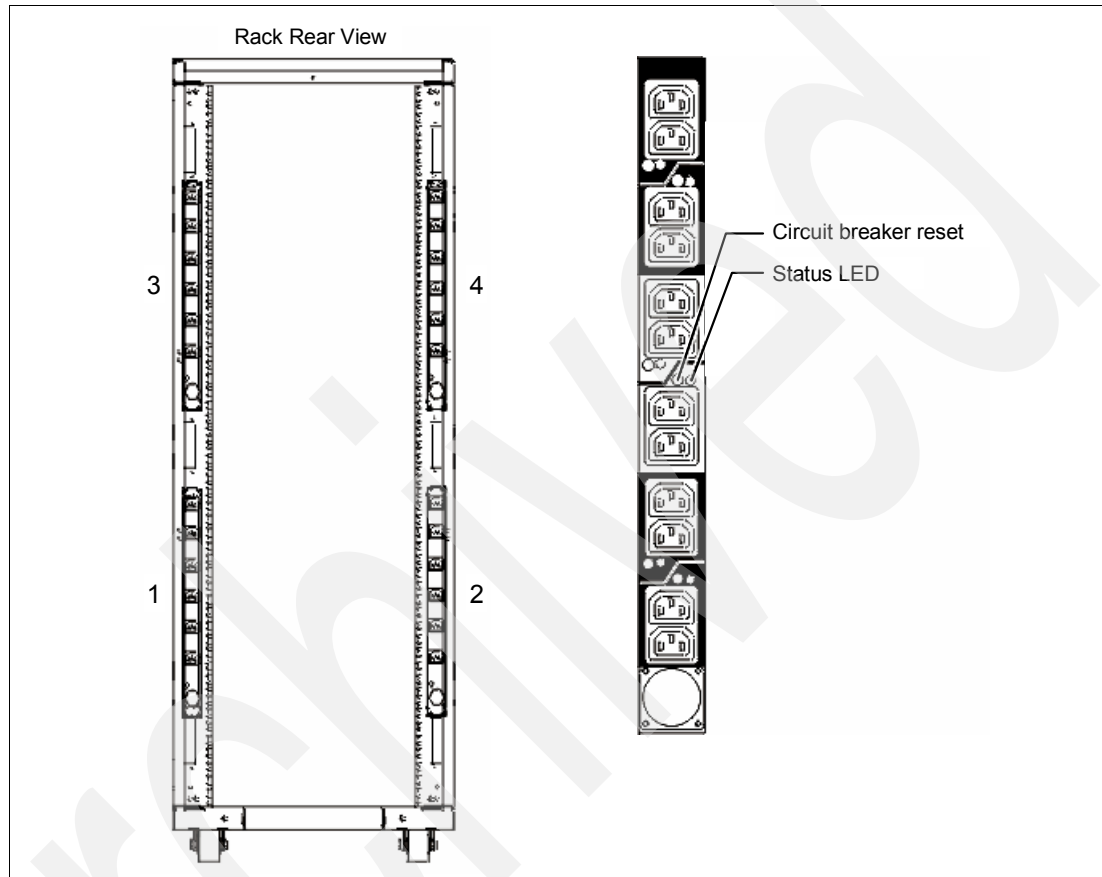

Figure 1-4 PDU placement and PDU view
- ▶ Up to four power distribution units (PDUs) can be mounted in the PDU bays (Figure 1-4 on page 27), but others can fit inside the rack. See 1.13.7, “The AC power distribution unit and rack content” on page 26.
Four PDUs can be mounted vertically in the back of the T00 and T42 racks. See Figure 1-4 for the placement of the four vertically mounted PDUs. In the rear of the rack, two additional PDUs can be installed horizontally in the T00 rack and three in the T42 rack. The four vertical mounting locations will be filled first in the T00 and T42 racks. Mounting PDUs horizontally consumes 1U per PDU and reduces the space available for other racked components. When mounting PDUs horizontally, it is best to use fillers in the EIA units occupied by these PDUs to facilitate proper air-flow and ventilation in the rack.